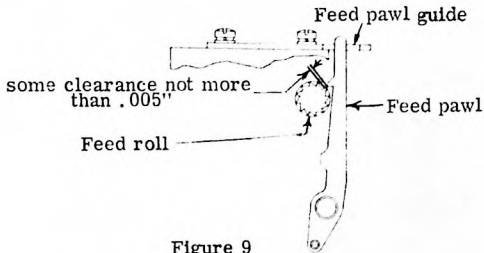

Figure 9
32. FEED PAWL GUIDE ADJUSTMENT (Figure 9)